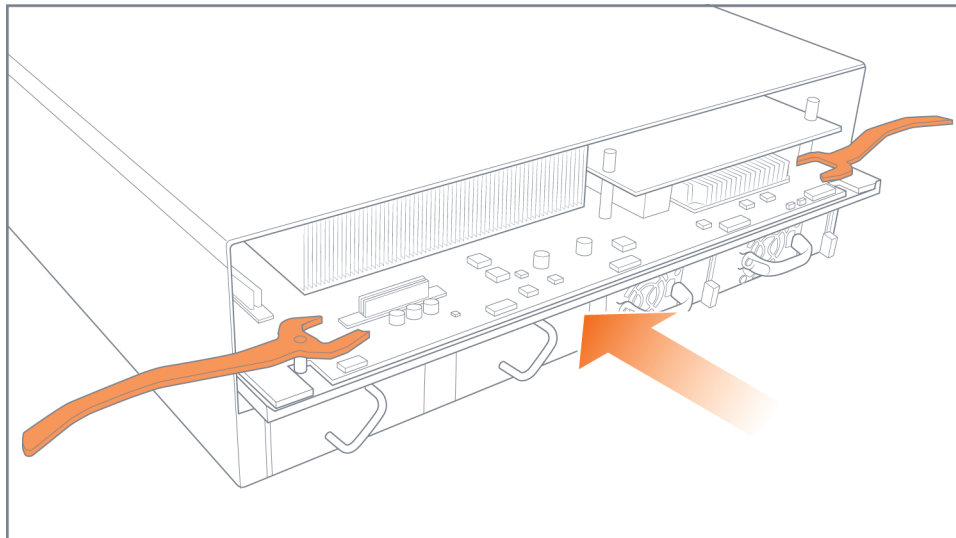

Figure 4-20: Control Card Insertion
1. Push the control card into the chassis. Refer to Figure 4-20 on page 87.